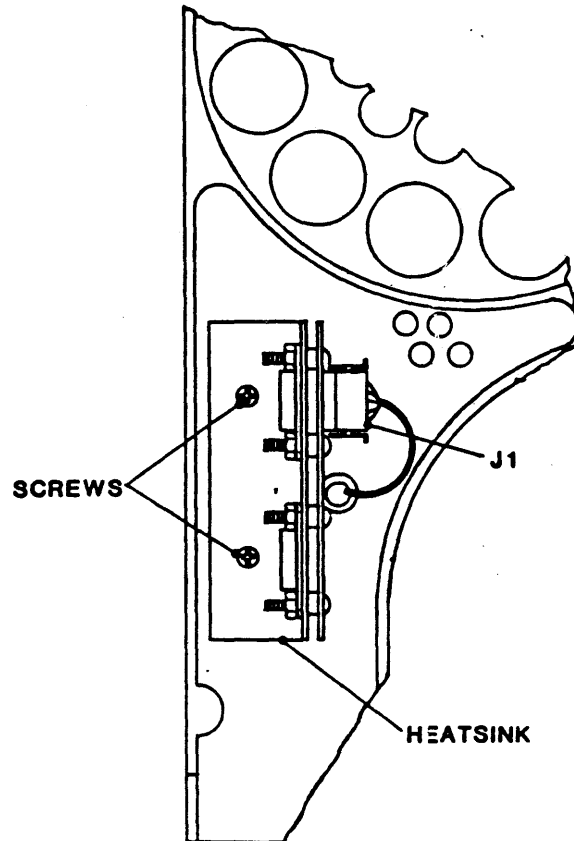

Figure 4-13 12 VDC Regulator Power Supply
**4.3.15 12 VDC REGULATOR ASSEMBLY (Fig. 4-13)**